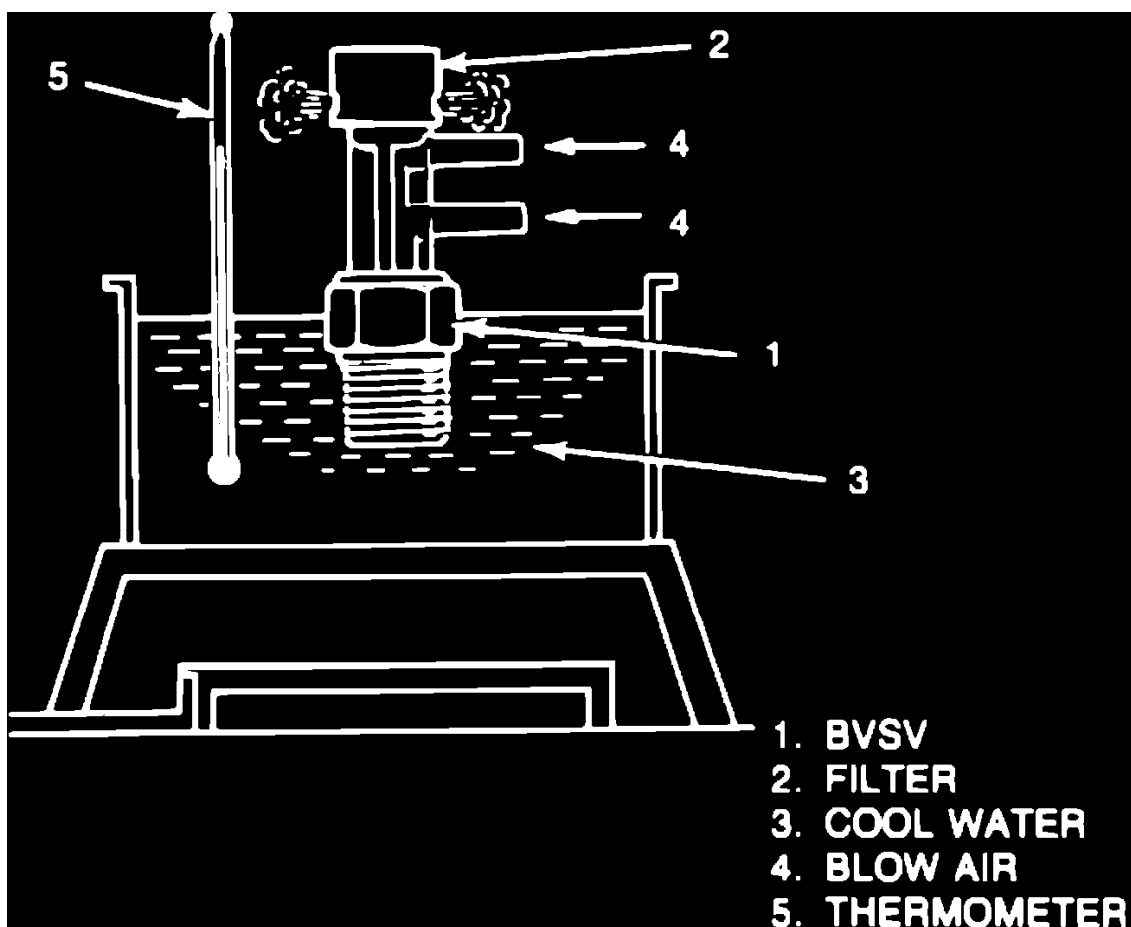

Fig. 14 Checking bi-metal vacuum switching valve low temperature operation
3. With BVSV below 113°F (45°C), blow air into each nozzle individually, **Fig 14**. Air should escape from filter.